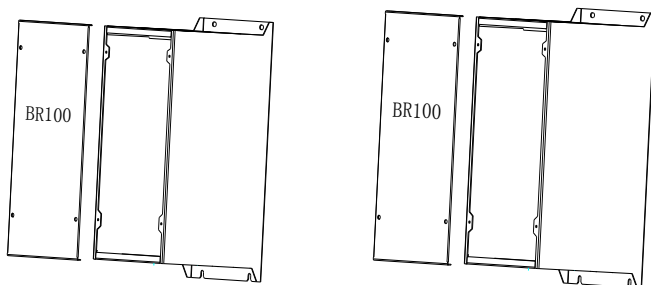

Figure 6 Front Cover Disassembly
- Unscrew the front cover, and disassemble it by following the arrow direction. See Figure 6.